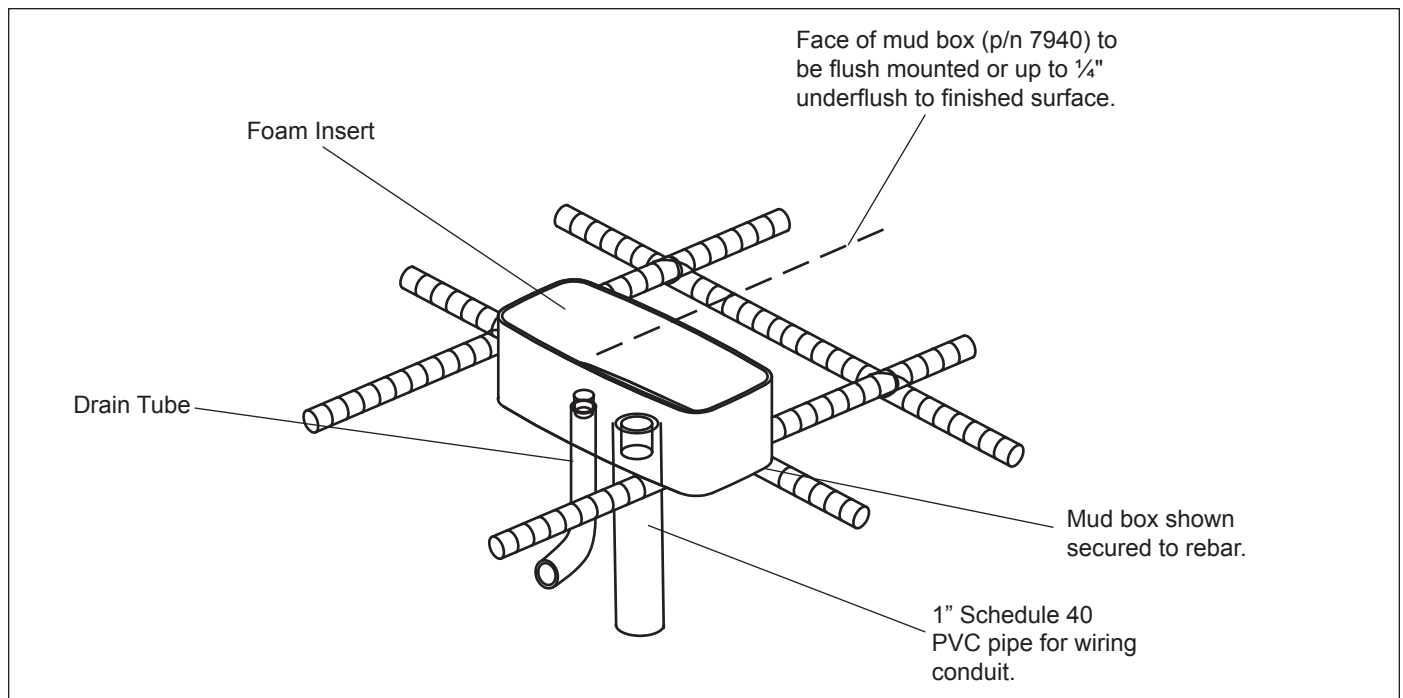

Figure 7. Horizontal Surface Rough-in Installation
4. Apply a 1/4" to 3/8" diameter bead of silicone sealant around the mud box. Position and secure the mud box in place. Figure 7 shows mud box secured to rebar.